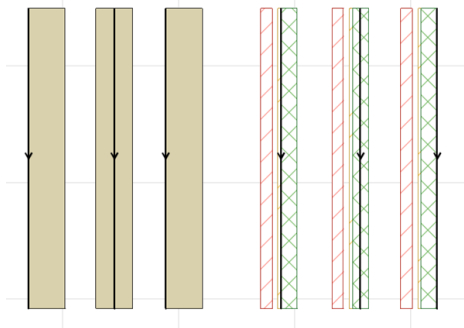

Figure 1.20 – Types of wall reference lines: a – for simple structures; b – for composite structures
There are 3 types of wall reference line (Fig. 1.20): outside face (1), inside face (3), center (2). In the case of a composite construction, in core center (5), core outside (4), core inside (6). When an object is selected, bold lines and dots appear on one side of the structure – this is the reference line.